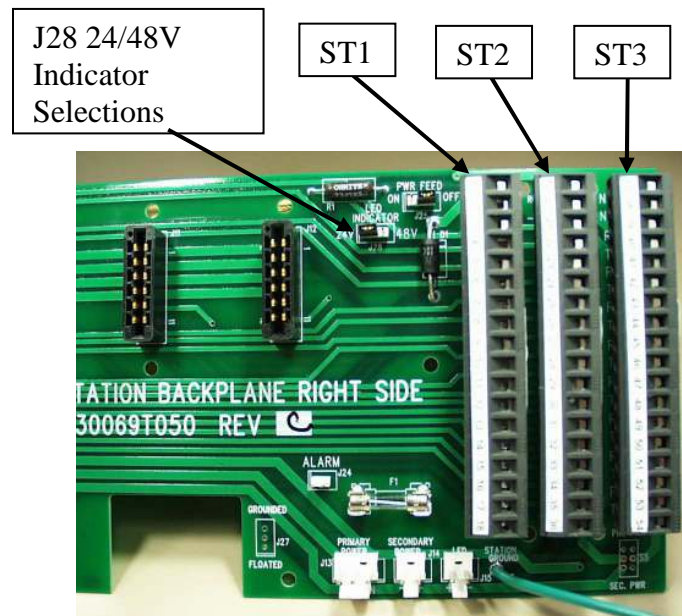

Figure 4: Station Side 18-Pin Terminal Blocks (Plugged-in)
This jumper provides optional setting for an alternative grounding via the AC line cord. **Note:** The jumper is set to FLOATED by factory. (See Figure 4)
This terminal provides access to 24V or 48VDC in the upper left hand corner of the card shelf. (See Figure 4) **Note:** The fan input must match the power supply output.
- 48VDC/130VDC FLOATING - With the battery terminals connected properly as described at the above section (Section 5.3), then set switch **S3** to **Secondary** position (See Figure 4).
- 120VAC - Simply plug the power cord into the AC receptacle on the card shelf, then set switch **S3** to **Primary** position (See Figure 4).